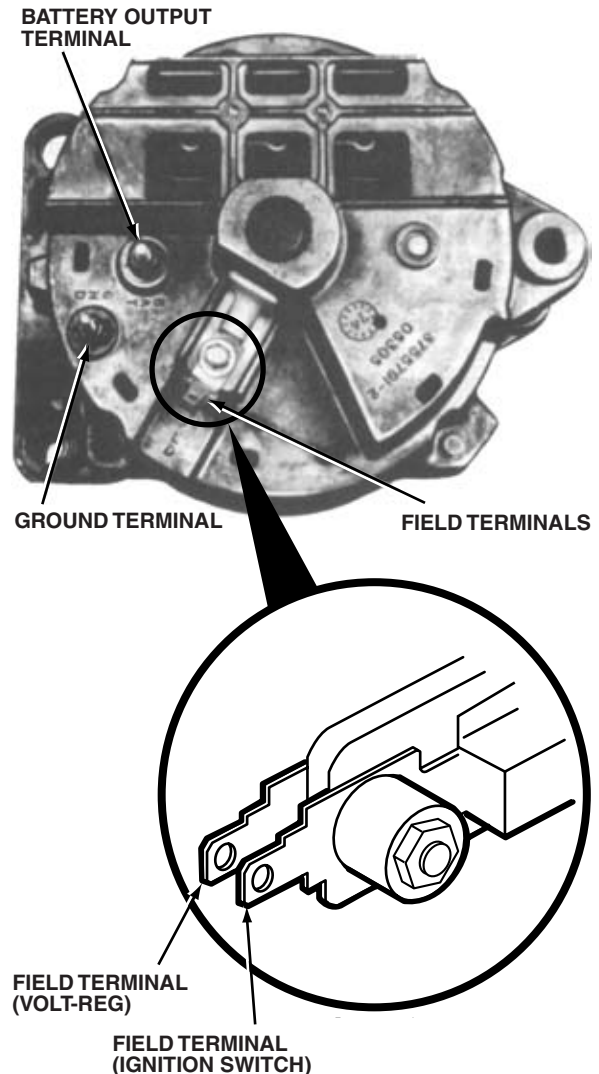

Figure 8-66. The terminals on a 100-amp DaimlerChrysler AC generator (alternator). (DaimlerChrysler Corporation)
- The FLD terminals connect to the insulated brushes. On the 100-ampere model, the FLD terminal has two separate prongs that fit into a single connector (Figure 8-66). The additional GRD terminal is a ground path.